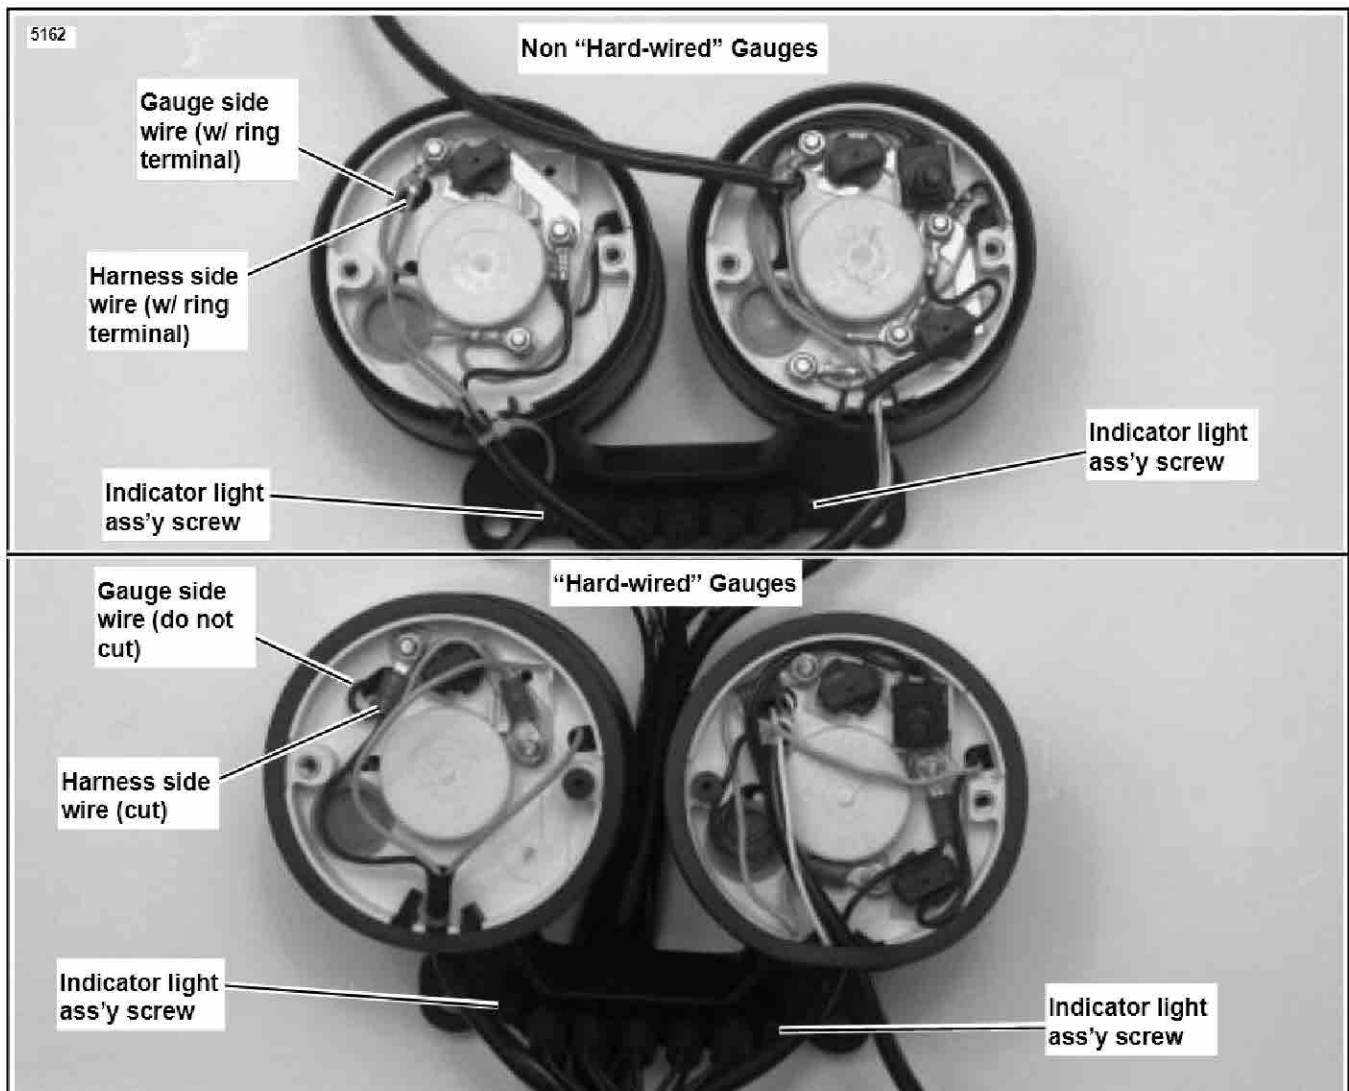

Figure 3. Dual Gauge Comparison
6. See Figure 3. Cut the pink wire approximately 1 in. from the hole.
- See Figure 3. Remove the screws that secure the indicator light components to the bracket. Retain screws and indicator light components for installation on new speedometer/tachometer bracket.
- See Figure 3. Install indicator light socket assembly on rear of dual bracket. Be sure locating pins on bezel enter holes in socket assembly. Install mounting screws.
- See Figure 3. Position wire harnesses under gasket, to gauge. Be sure correct harness is going to proper gauge.